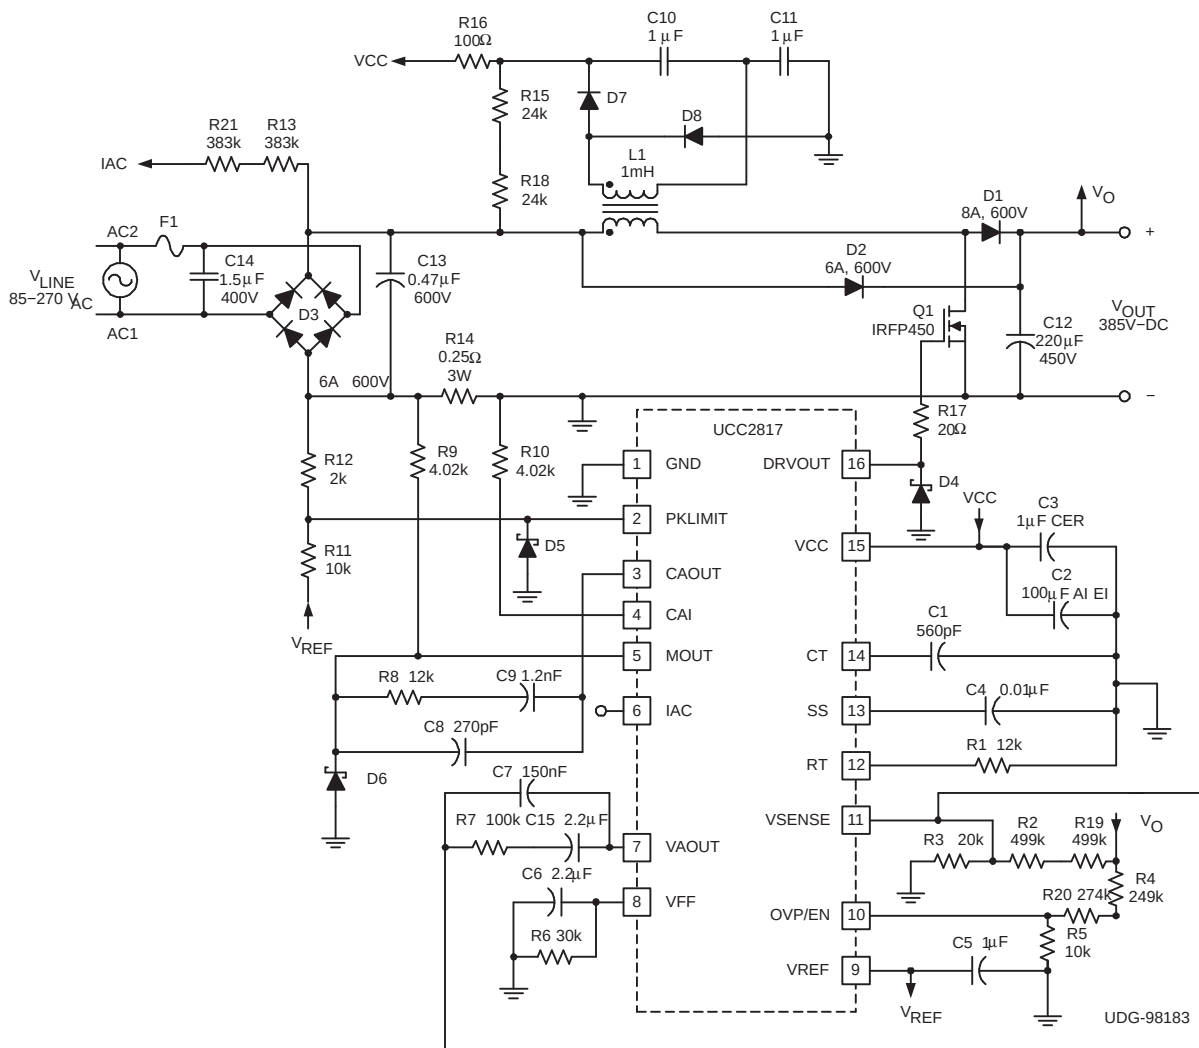

Figure 1. Typical Application Circuit
The UCC2817 is a BiCMOS average current mode boost controller for high-power-factor, high-efficiency, preregulator power supplies. Figure 1 shows the UCC2817 in a 250-W PFC preregulator circuit. Off-line switching power converters normally have an input current that is not sinusoidal. The input current waveform has a high harmonic content because current is drawn in pulses at the peaks of the input voltage waveform. An active power-factor correction circuit programs the input current to follow the line voltage, forcing the converter to look like a resistive load to the line. A resistive load has 0° phase displacement between the current and voltage waveforms. Power factor (PF) can be defined in terms of the phase angle between two sinusoidal waveforms of the same frequency:
The UCC2818 version of the device is intended to have V_{CC} connected to a 12-V supply voltage. The UCC2817 has an internal shunt regulator enabling the device to be powered from bootstrap circuitry, as shown in the typical application circuit of Figure 1. The current drawn by the UCC2817 during undervoltage lockout, or start-up current, is typically 150 μ A. Once V_{CC} is above the UVLO threshold, the device is enabled and draws 4 mA typically. A resistor connected between the rectified ac line voltage and the V_{CC} pin provides current to the shunt regulator during power up. Once the circuit is operational, the bootstrap winding of the inductor provides the V_{CC} voltage. Sizing of the start-up resistor is determined by the start-up time requirement of the system design.